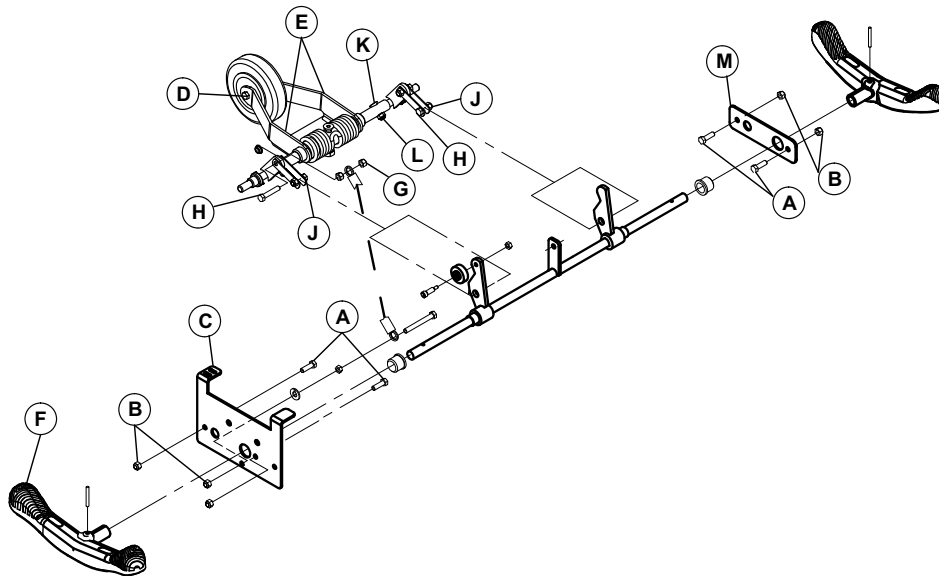

Figure 7 – Fifth wheel arm assembly replacement, fixed base
6. Using a 1/2" combination wrench and 1/2" socket, remove the four locknuts (B) and four bolts (A) that secure the fifth wheel assembly to the support plates (C, M) (Figure 7). Lower the assembly to the ground and remove the assembly from underneath the base frame. Save the locknuts and bolts.
7. Using two 1/2" combination wrenches, remove the locknut and bolt (D) that secure the caster to the wheel arms (E) (Figure 7). Remove and save the caster. Save the locknut and bolt.
8. Move the left support plate toward the brake/steer pedal (F) to disengage the swing arm and torsion lever assembly from the support plates (Figure 7).
9. Using a 1/2" combination wrench, remove the locknut (G) that secures the spring hook to the bolt (Figure 7). Save the locknut.
10. Using two 1/2" combination wrenches, remove the two locknuts (J), four shoulder spacers, and two bolts (H) that secure the top part of the counter lever to both fifth wheel torsion levers (Figure 7). Save the locknuts, spacers, and bolts.
11. Using a 1/2" combination wrench and a 3/16" Allen wrench, remove the two locknuts (L) and two bolts (K) that secure the torsion levers to both ends of the fifth wheel shaft (Figure 7). Save the locknuts and bolts.